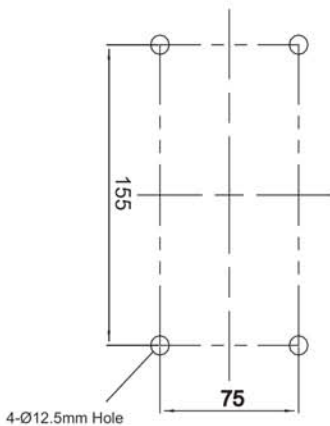

FIG.19
- D-1.** If you want to install the speed dome on the concrete wall, you need to make 12.5mm diameter 4 holes by drill like FIG. 19. (Depth 37mm)